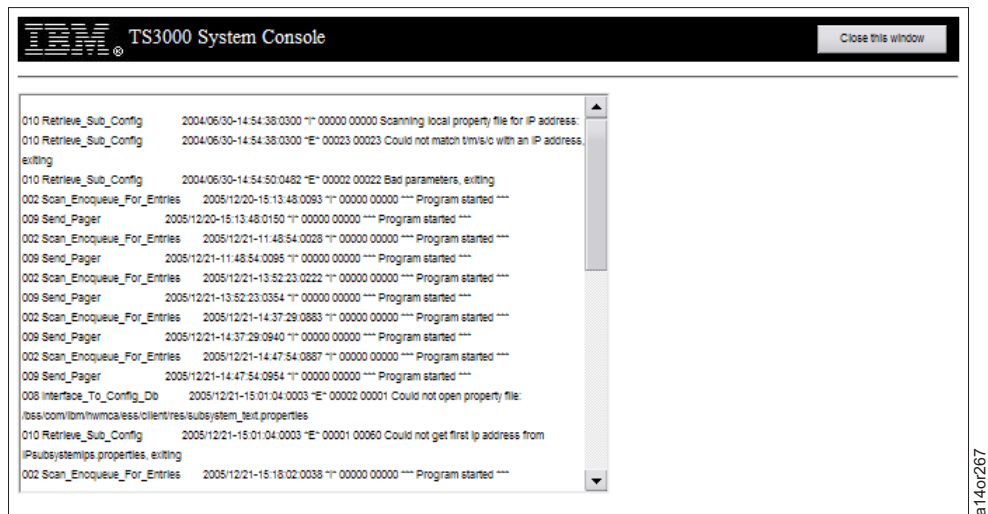

Figure 3-74. Message File Screen
2. Click **Display Message File** to view the message file. You see Figure 3-74 on page 3-55.